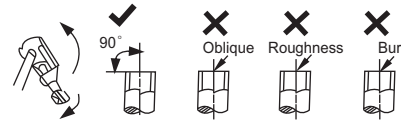

Fig. 8 — Cut the Pipe
2. Cut the pipe, with a pipe cutter, at 90 degrees (see Fig. 8).